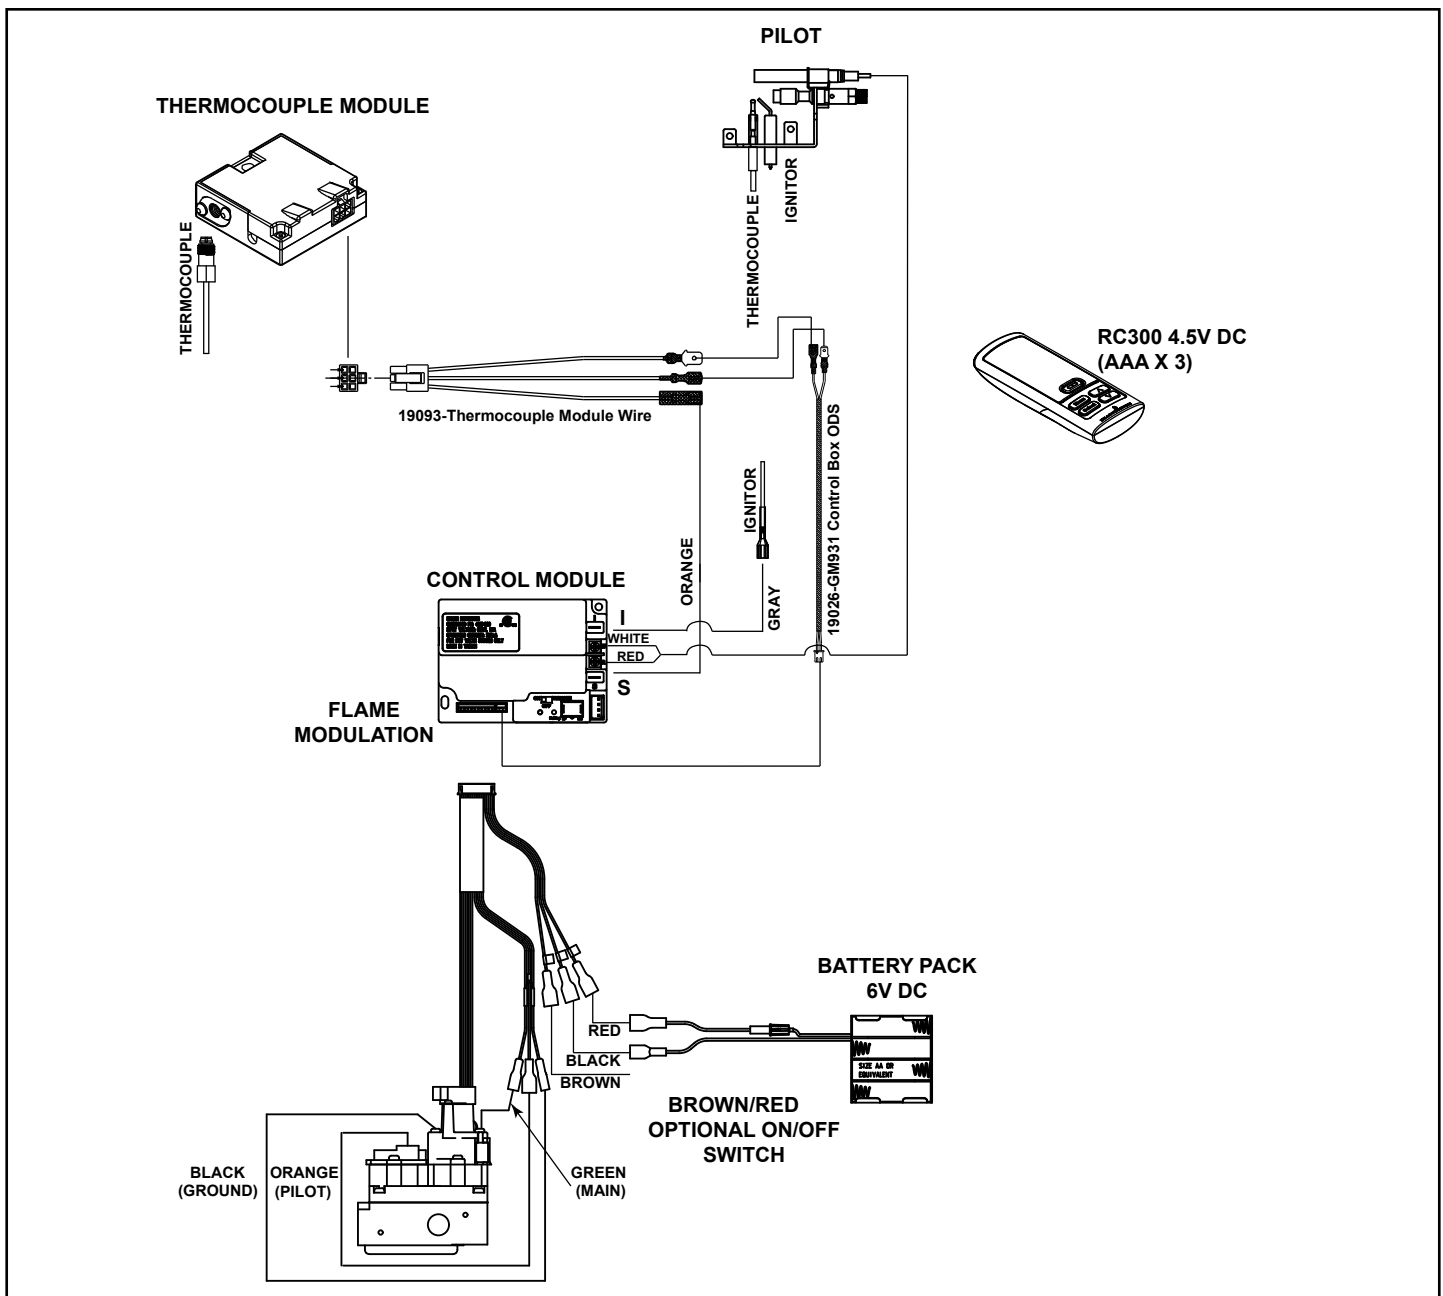

Figure 5.2 IntelliFire® Plus with ODS Wiring Diagram (Battery Only)
- Refer to Figure 5.2, IFP ODS Wiring Diagram.